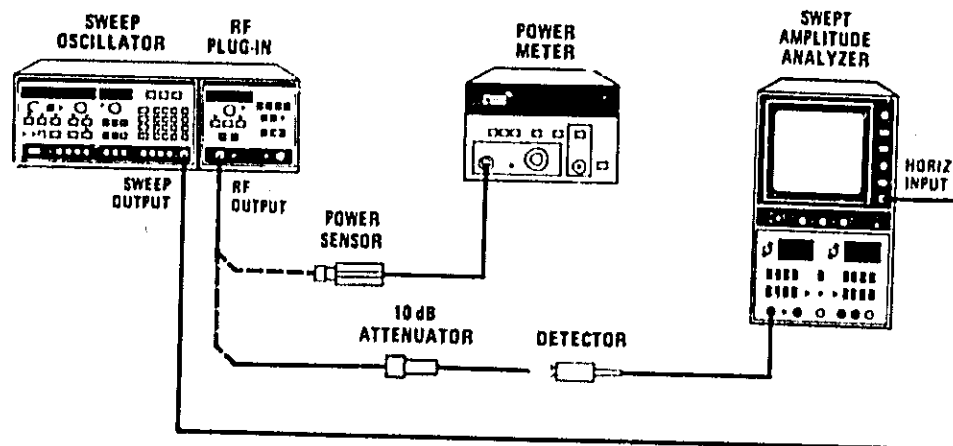

Figure 5-21. Power Calibration Test Setup
1. Connect equipment as shown in Figure 5-21, with the 8755C monitoring the RF output. Select 8350A \square MOD. Observe the full band trace and select a frequency where the power level is approximately in the center of the power variation range. Select CW mode at that frequency. Set POWER for a front panel indication of +0 dBm.